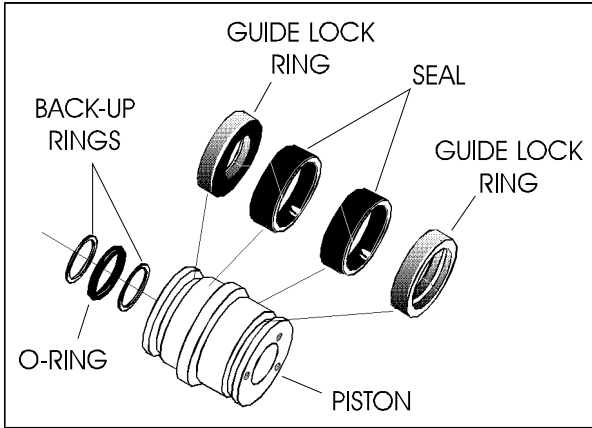

Figure 5-58. Piston Seal Kit Installation
12. Place new guide locks and seals in applicable outside diameter grooves of cylinder piston. (See Figure 5-58. Piston Seal Kit Installation.)